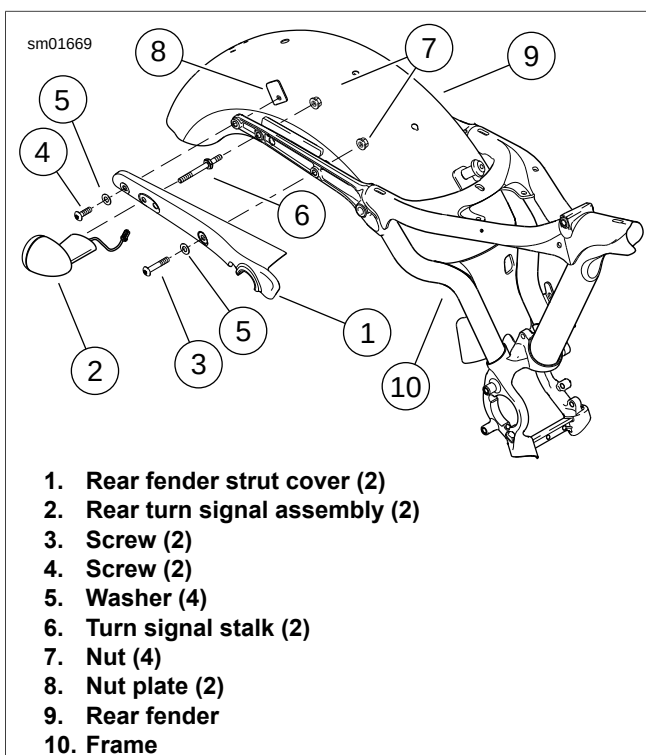

Figure 6-71. Rear Fender Mounting Components (typical)
7. See Figure 6-71. Remove screws (3, 4), washers (5), nuts (7) and nut plate (8).
8. Remove rear fender strut covers (1) with attached turn signal assemblies (2) from rear fender struts. Carefully slide wiring through holes.
10. Unscrew and remove turn signal stalk (6) and fender strut cover (1) from each turn signal assembly (2). Mount will separate from turn signal housing.